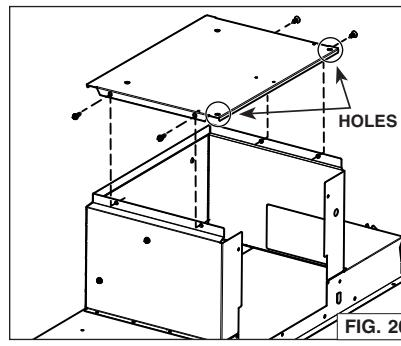

FIG. 20
9. Install the back plate on top of the unit, where the blower support plate was. Orient the holes nearby the corners towards the back of the unit. Assemble to the top of the unit using 4 screws previously removed in step 7 (FIG. 20).